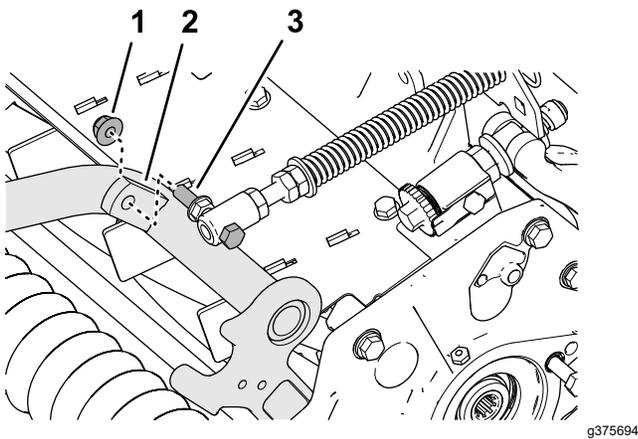

**Figure 12**
3. Remove the flange locknut (3/8 inch) that secures the capscrew of the turf compensation spring to the right tab of the carrier frame, and remove the compensation spring from the cutting unit (Figure 12).